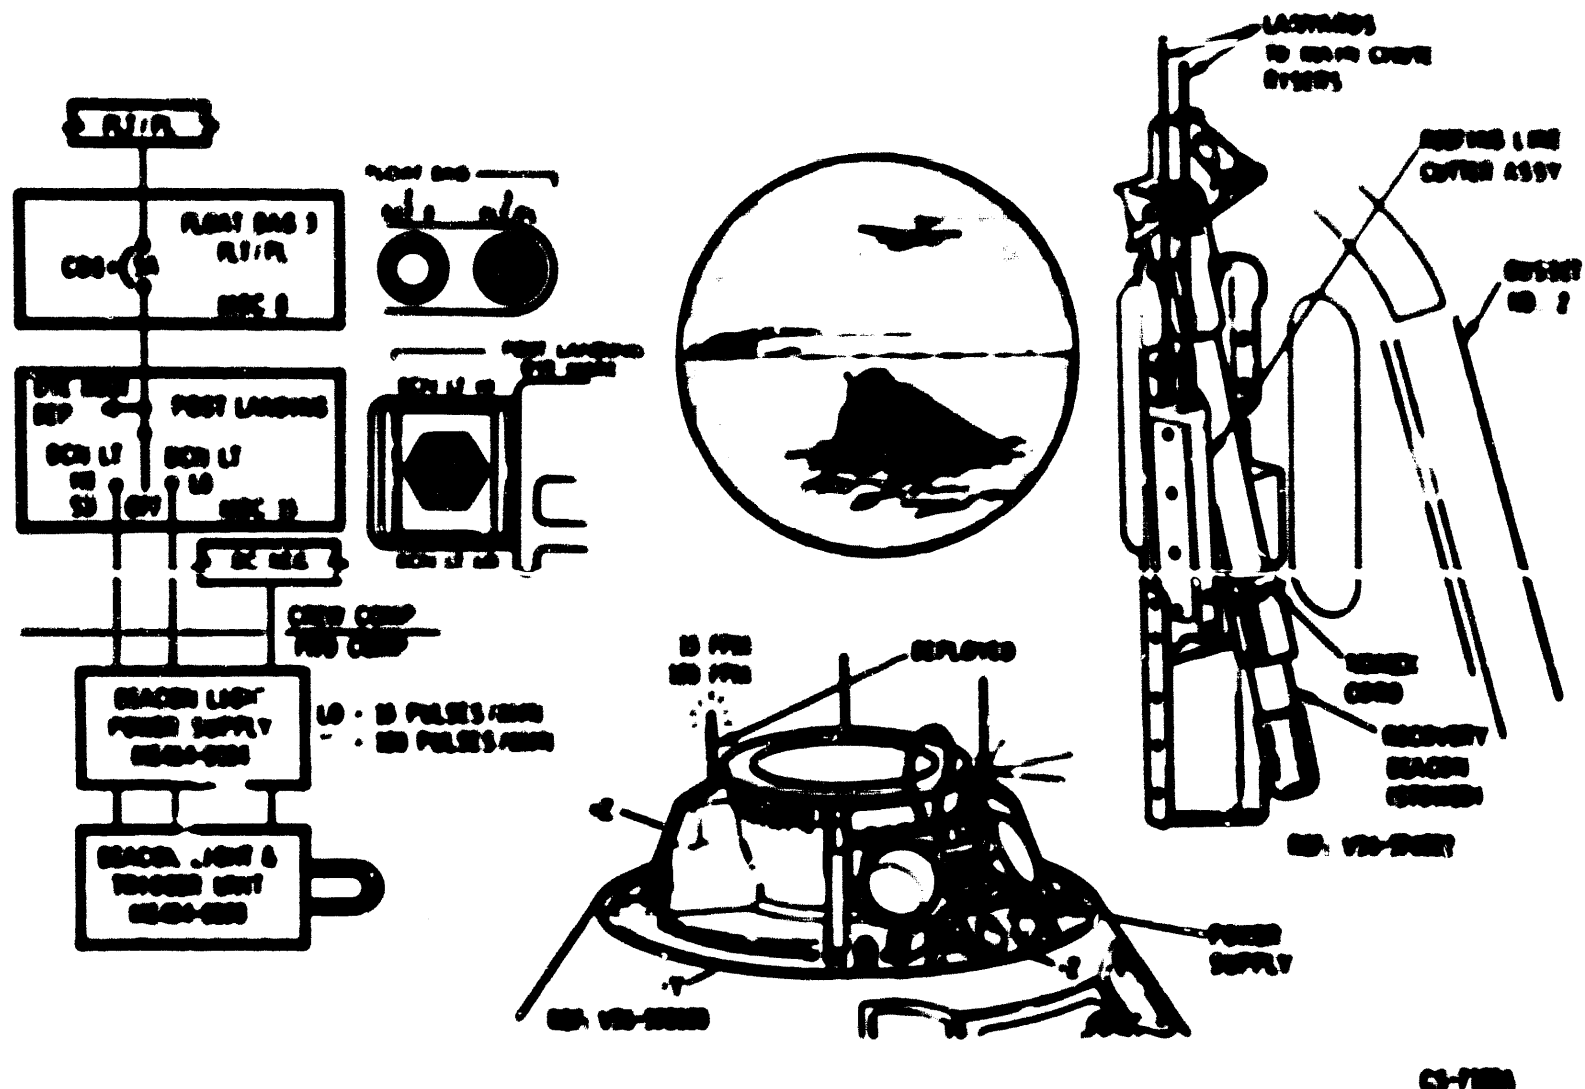

Figure 2.12-51. Recovery Beacon
2.12.9.3 Recovery Beacon (Figure 2.12-51).